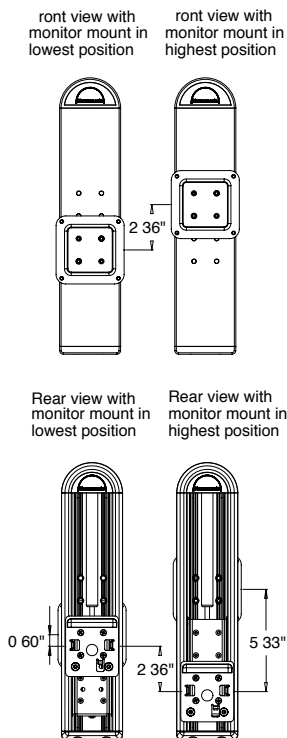

Figure 7.2 Front-End Adjuster Mounting Options
Adjustor or FEA is an attachment that provides up to 6" of dynamic height adjustment. It also has static settings that allow up to 5.33" of static adjustment (Figure 7.2).
- Both the bracket on the front of the FEA that attaches to the monitor and the bracket on the rear of the FEA that attaches to the monitor arm (ball joint) have three vertical mounting options that allow up to 5.3" of static adjustment (Figure 7.2). The monitor can be positioned as low as .6" above the center of the monitor arm (ball joint) and as high as 5.3" above the center of the arm based on which sets of holes are used to mount the FEA both to the arm and the monitor. The adjustable cylinder then allows 6" of dynamic adjustment downward from that position.